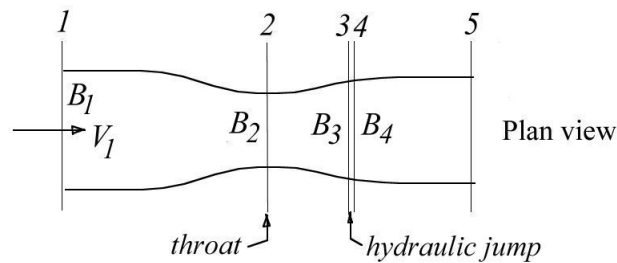

Figure P10.56
10.56 Water flows steadily in a smooth constriction, as shown in plan view in Figure P10.56. At position 1, where the depth of the water is Y_1 and the width of the channel is B_1 , the Froude number is 0.5. A hydraulic jump is located between positions 3 and 4